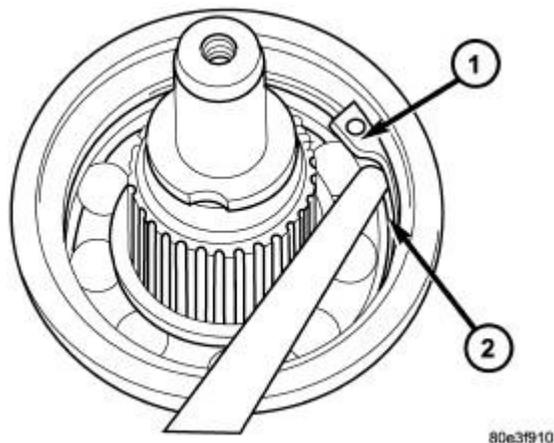

Fig. 96: Rear Output Shaft Retaining Ring
6. Remove the transmission rear output shaft bearing retaining ring (1). Refer to **Fig. 96**.